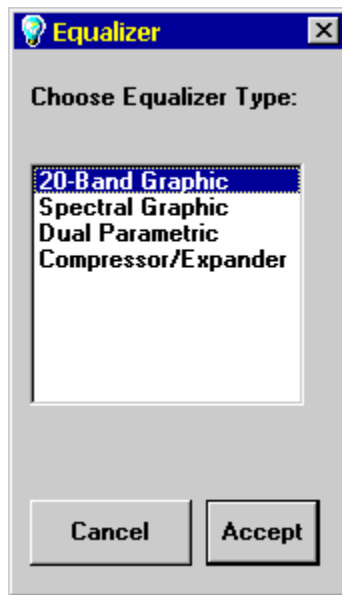

Figure 3-10 Tutorial Equalizer Selection Window
32. Click on the **Select** button in the Equalizer block. The window in Figure 3-10 will appear.